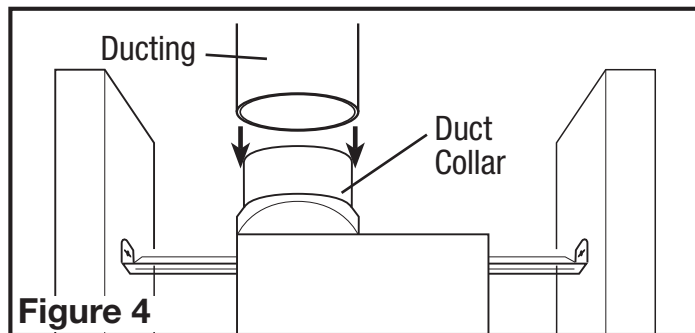

Figure 4
1. Connect the ducting to the fan's duct collar (Figure 4). Secure in place using tape or screw clamp. Always duct the fan to the outside through a wall or roof cap. It is recommended that low restriction termination fittings be used.